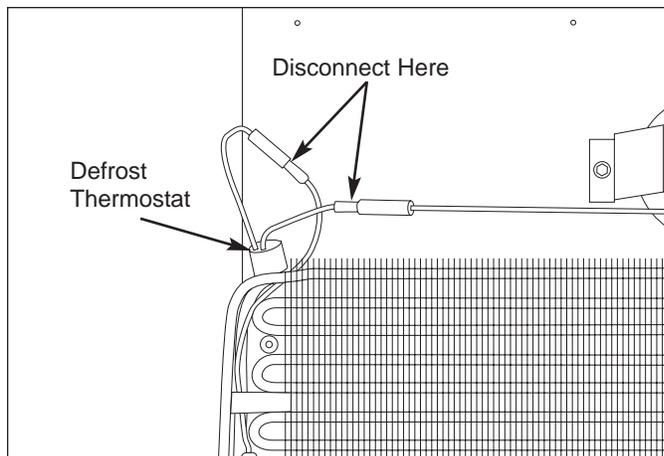

Figure 5-20. Defrost Thermostat Removal
2. Disconnect the defrost thermostat wire leads from the wire harness. (See Figure 5-20)